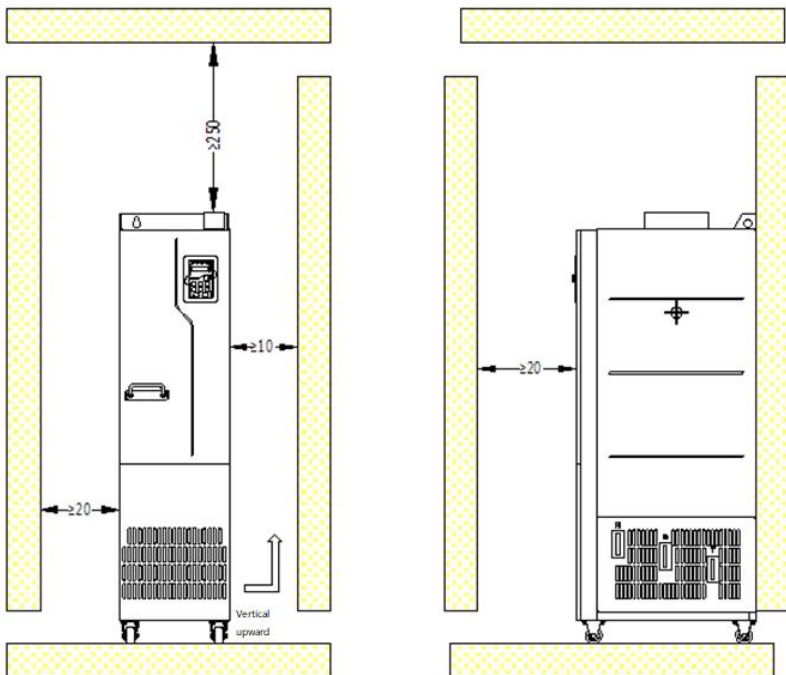

Figure 4-9 Mounting space requirements
- ✧ Figure 4-9 shows the mounting space. You not only need to reserve enough heat dissipation space for the VFD but also need to consider the heat dissipation condition for other devices in the cabinet.